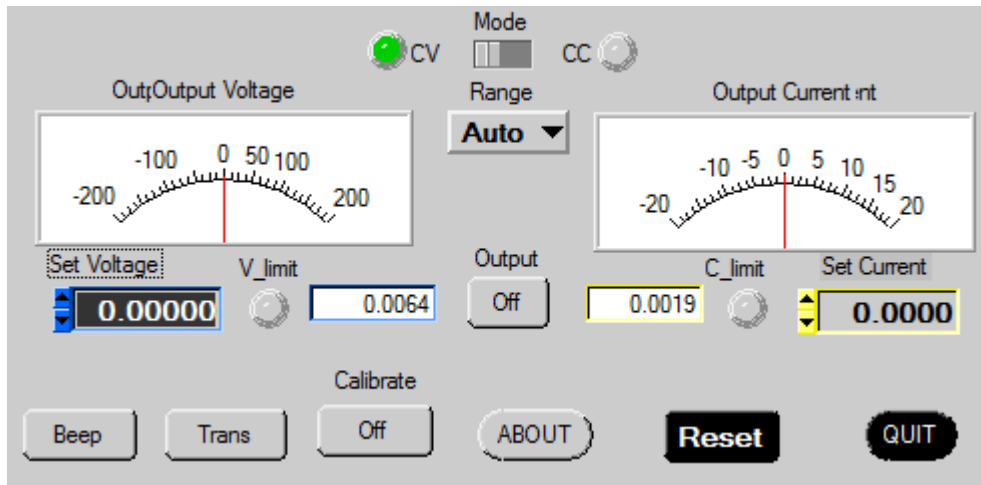

FIGURE 3-2. MAIN PANEL
5. Once you are connected to the VISA interface, the virtual front panel appears (see Main Panel, Figure 3-2).